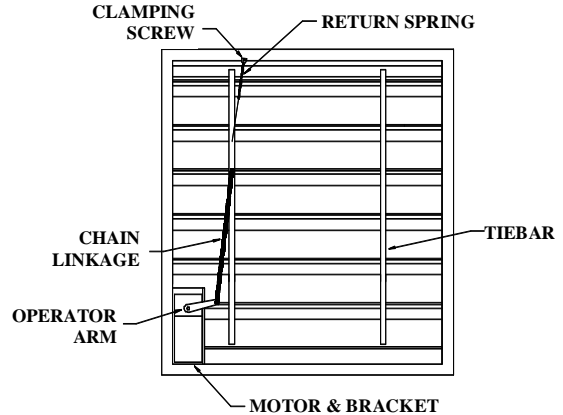
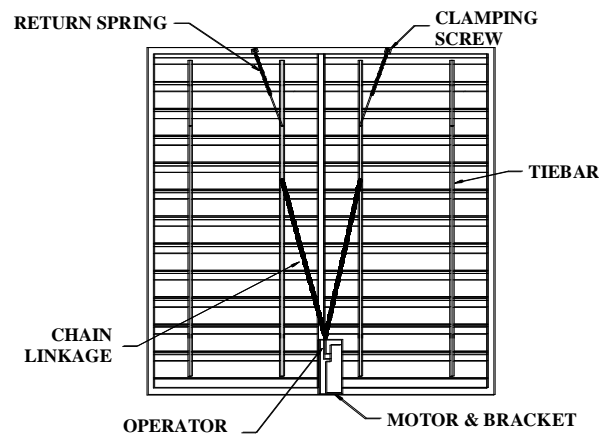

FIGURE 1
FIGURE 2
Single-Panel Motor Operated Shutter (Model S24 through S36 - See Figure 1)
Double-Panel Motor Operated Shutter (Model S42 through S60 - See Figure 2)
2. Alternate Installation Methods. All shutter models are shipped with flanges detached (but in same carton with shutter). This allows the installer to mount the shutter either to the outside face of the wall opening (See Figure 1) or recessed into the wall opening and flush with the outside wall (See Figure 2). The shutter may also be mounted without the use of flanges if desired (See installation Instruction (f) below).
- c) When face mounting to a wall, caulk joint to top flange and shutter frame. See Figure 1 and Detail 1.
- d) When flush mounted, caulk joint of bottom flange and shutter frame - also under weep holes (Recommended bead of caulking along bottom edge of shutter frame before flange is attached). See Figure 2 and Detail 2. After flange is attached, caulk under weep hole to avoid leaking behind flange. Do not block weep holes with caulking.